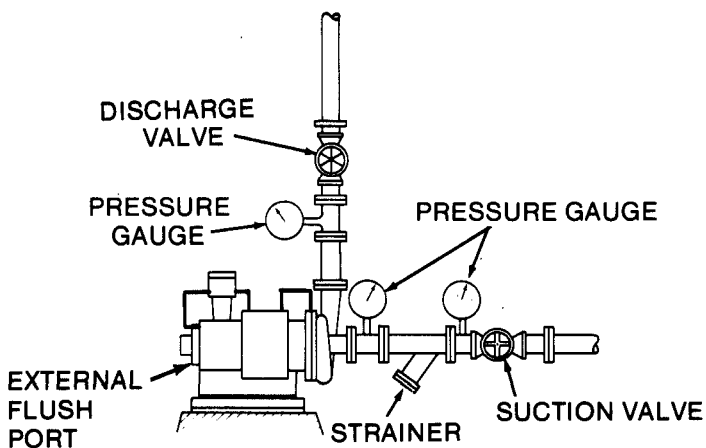

Figure 1. Typical Piping Arrangement
- H. Provisions should be made for pressure gauges in the suction and discharge piping. The gauges should be located as shown in Figure 1. The pressure gauges can be extremely helpful during start-up and are desirable for monitoring the performance of the pump.